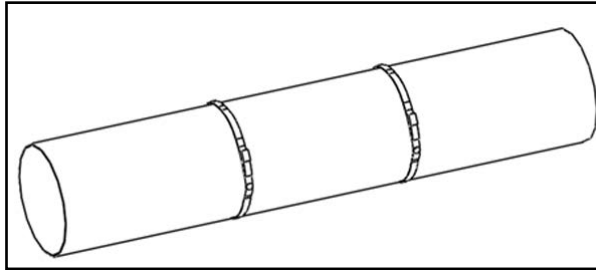

Figure 10: Mounting straps installed on pipe
- b. Install the two mounting straps on the pipe about 12 in. (30 cm) apart (see *Figure 10 below*).